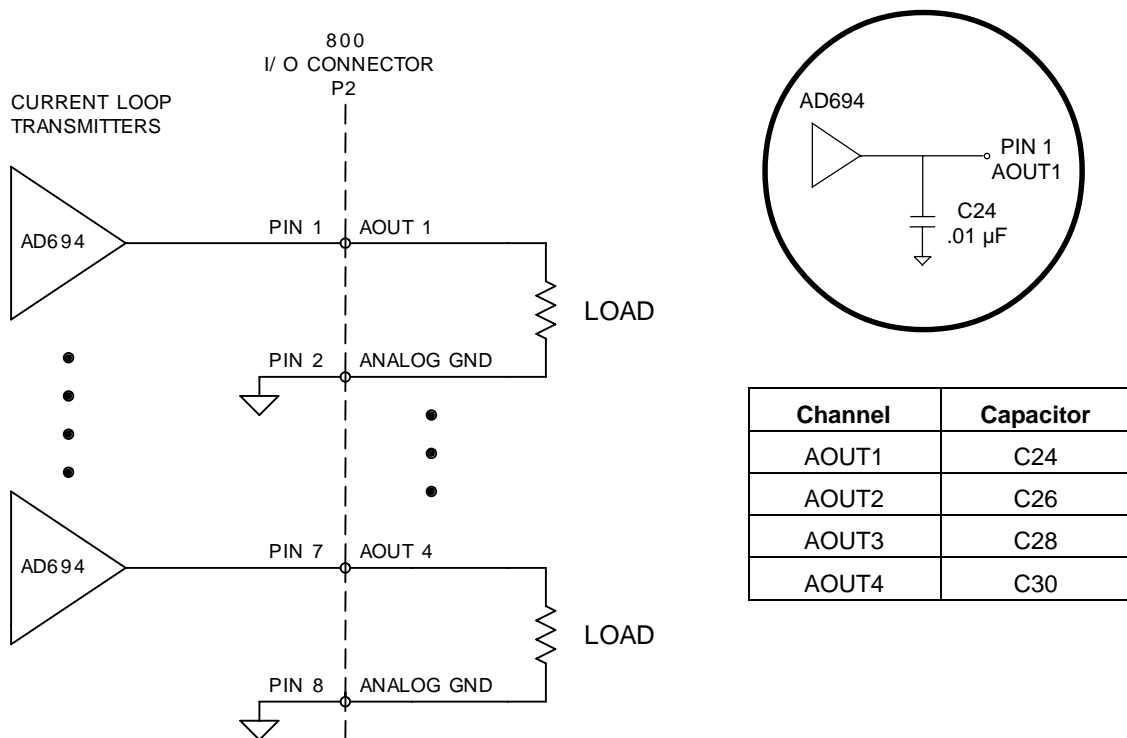

Fig. 2-3 — Current Output Connections, No Loop Supply
**Current Loop Operation, No Loop Power Supply:** Figure 2-3 shows how to connect the current loop transmitter outputs to a resistive load with no external loop supply. The AD694 current loop transmitters used on the DA800 are designed to be stable when driving resistive loads. For inductive or poorly defined loads, it is recommended that you add a 0.01  $\mu$ F capacitor in the location provided on the board for each analog output channel. The table included in Figure 2-3 lists each channel and its corresponding capacitor number on the board. These capacitors are located with the analog output circuitry on the top half of the board. The capacitor is placed between the output of the AD694 and analog ground, as shown in the circled area of Figure 2-3.